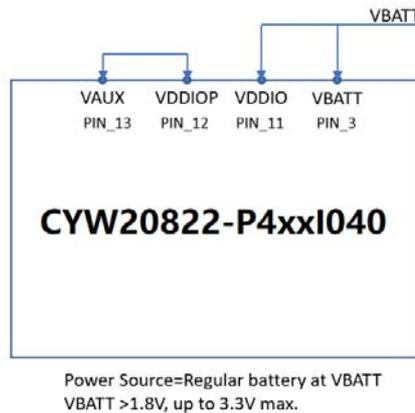

Figure 9 Regular battery, External I/O supply
- For applications that cannot support fixed 1.8 V I/O supply (see **Figure 9**).